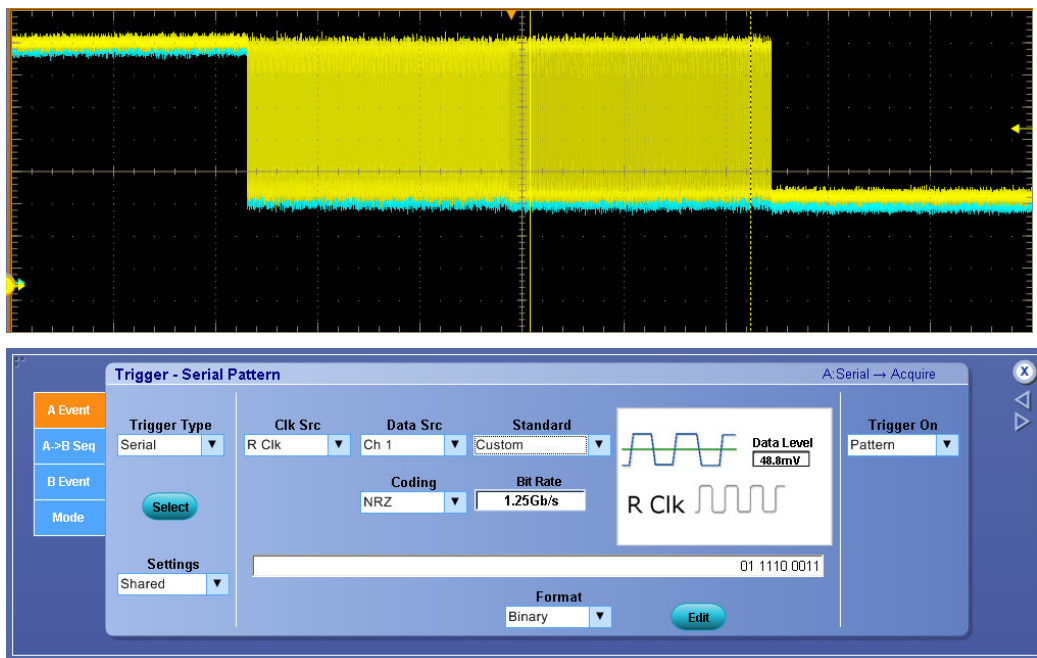

Figure 8: Trigger setup for Common Mode Output Voltage
5. Go to Trigger menu, change the Trigger Type to Serial, Source to (Ch1), Bit rate to 1.248Gb/s, Pattern length is 0111100011 (Binary). See Figure 8.